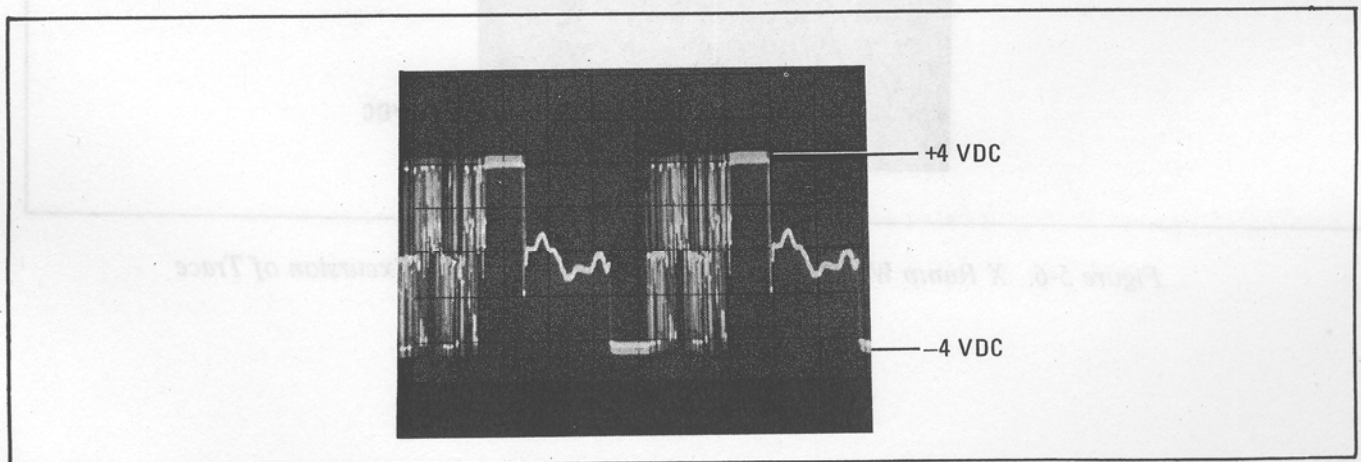

Figure 5-5. Y-Generator Waveform at A2TP5
- Connect dc coupled oscilloscope to A2TP5 and adjust "C" so the top of the waveform (Figure 5-5) is the same as the "true full scale" reference line noted in step a  $\pm 0.12$  volts.